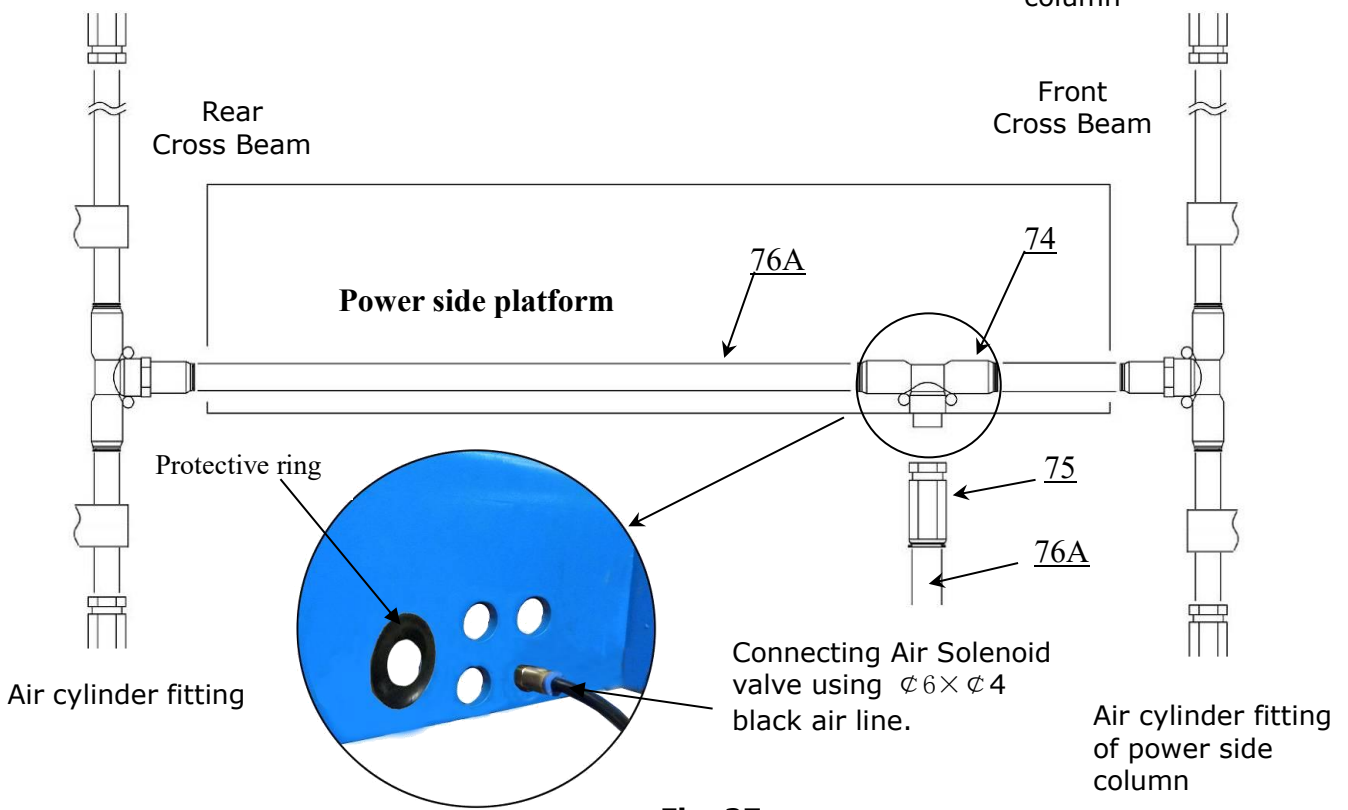

Fig. 27
(See Fig. 27).
3. Connecting air solenoid valve using $\phi 6 \times \phi 4$ black air line (See Fig. 27).